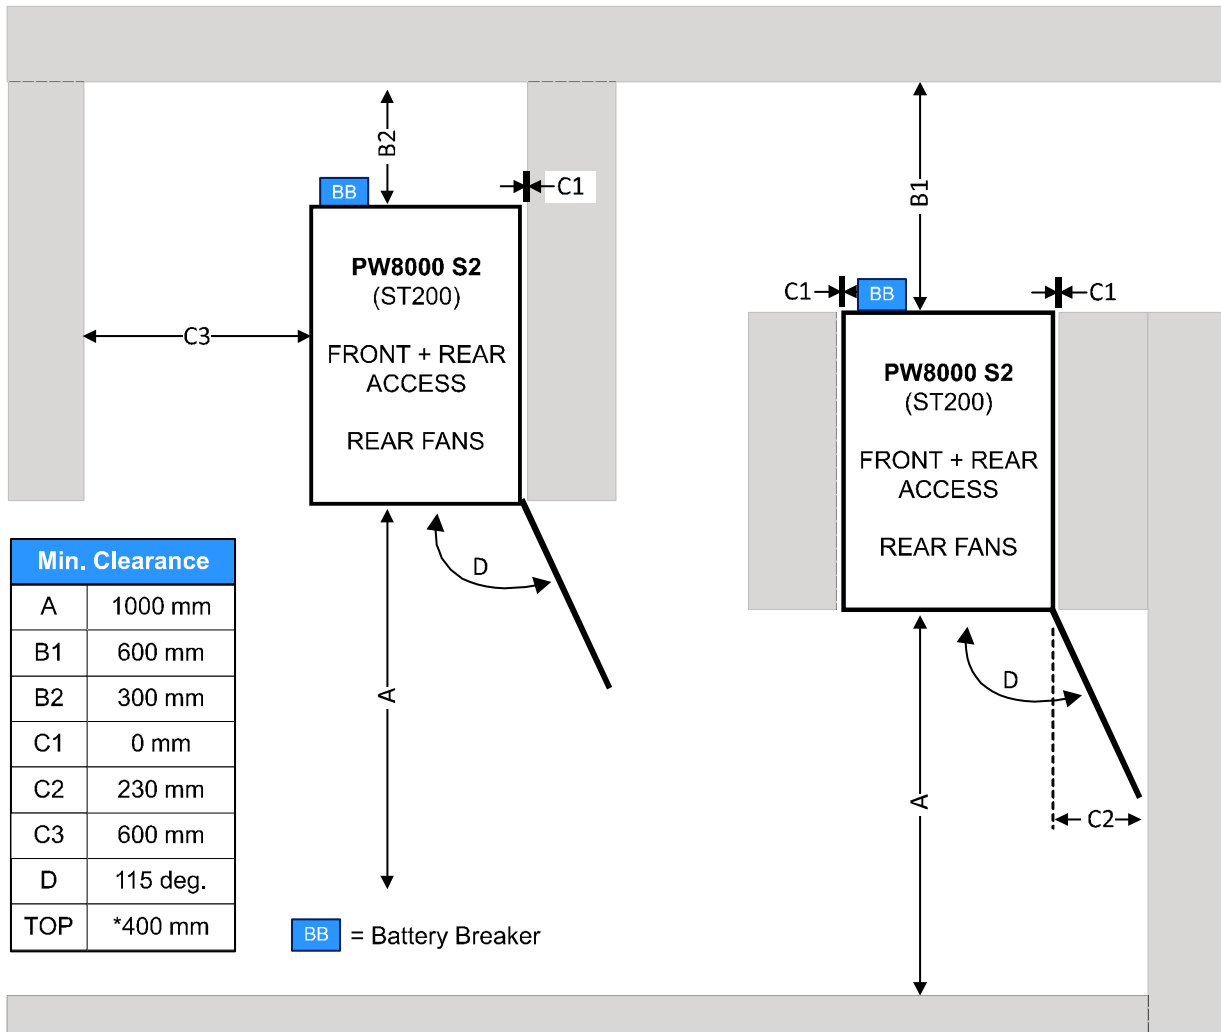

Figure 3.2 ST200 Clearance recommendations
*Note: The battery fuses are located on the back of the ST-200 cabinet and rear access is required to operate the equipment. See Figure 3.2 for optional installation positioning of the ST200 cabinet.
1. A clearance of 1000mm is required at the front of the UPS cabinet to allow the UPS modules to be withdrawn (A).
2. The ST200 battery circuit breaker [BB] is located on the back of the cabinet and suitable access must be provided to operate the breaker. Two alternative installation layouts are shown in Figure 3.2.